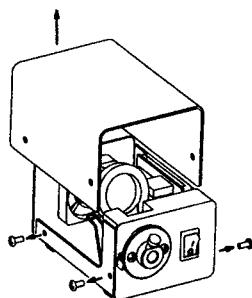

Figure 3
2. Remove the four thumb-screws on the sides and lift off the top cover to expose the lamp (**Figure 3**).